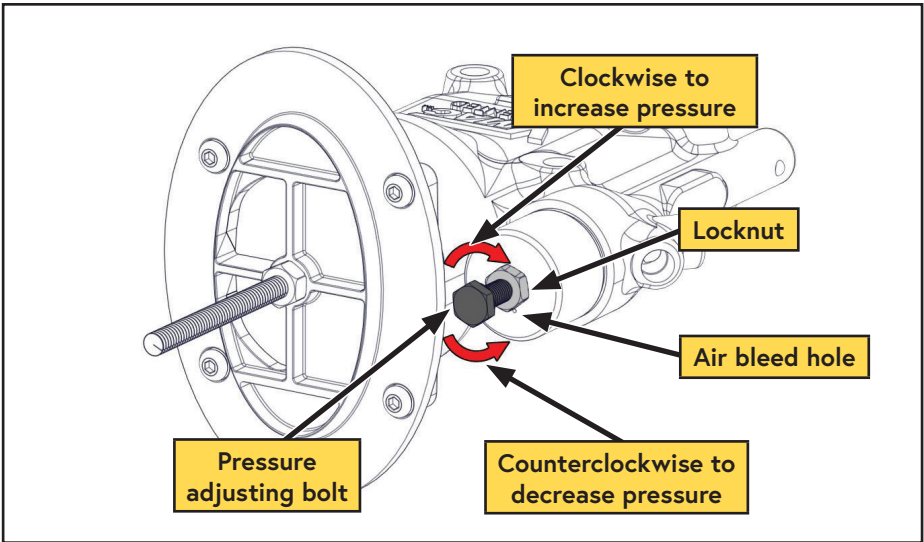

Figure 49 — Adjusting the inlet pressure regulator
- ☐ Loosen the locknut on the regulator (Figure 49).
- ☐ Rotate the pressure adjusting bolt as required to set the regulated pressure to 140 psi. (Figure 49).